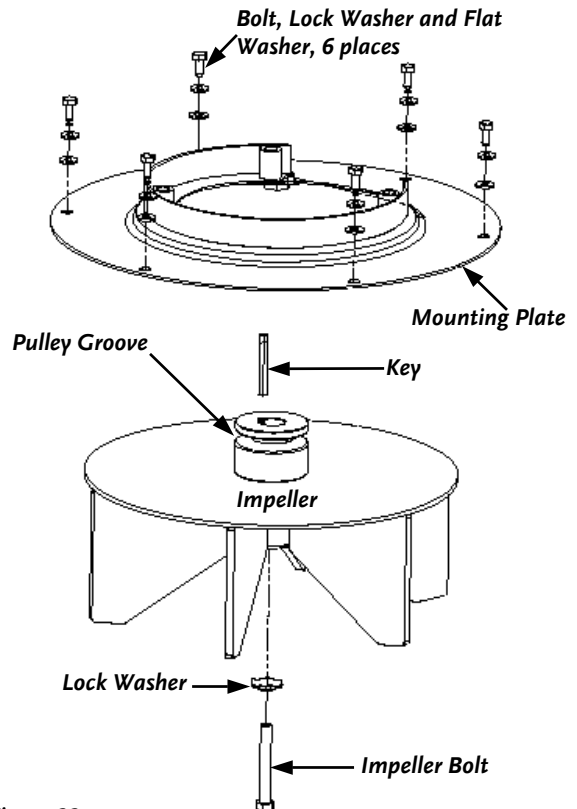

Figure 22
4. Using a 7/16" Socket with 6" Extension, remove the six (6) 1/4" Bolts, Lock Washers and Flat Washers (**Figure 22**) attaching the Engine Mounting Plate to the Impeller Housing.
6. Leaving the Engine attached to the Mounting Plate and using a 9/16" Socket, remove the Impeller Bolt and Lock Washer and then slide the Impeller off the Engine Crankshaft (**Figure 22**).
7. If the Impeller does not slide off the Engine Crankshaft, place two (2) Pry Bars between Impeller and Mounting Plate on opposite sides. Carefully and evenly, pry the Impeller away from Engine until it loosens.
**NOTE:** Make sure that the Key stays in the Keyway in the Engine Crankshaft (**Figure 22**).
1. Apply a thin coat of Anti-Seize Compound to the Engine Crankshaft and reinstall the Impeller by aligning the Key in the Crankshaft with the Keyway in the Impeller (**Figure 22**).
5. Using a 7/16" Socket with 6" Extension, remove the six (6) 1/4" Bolts, Lock Washers and Flat Washers (**Figure 22** on page 37) attaching the Engine Mounting Plate to the Impeller Housing.
**NOTE:** Before placing the new Belt on the Transmission Pulley and before placing the Impeller back in the Impeller Housing, look between the Engine Mounting Plate and the Impeller to insure the Belt is in the Groove of the Impeller Pulley (**Figure 22** on page 37).